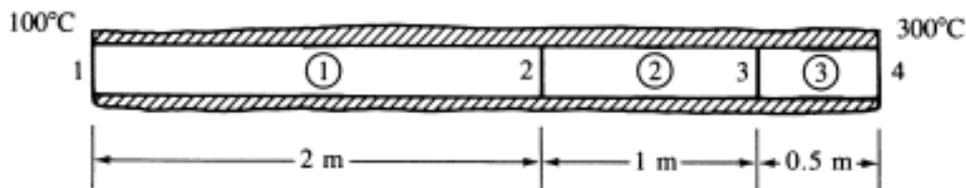

Figure.4
7. a) For the one-dimensional composite bar shown in Figure.4, determine the interface temperatures. For element 1,  $K_{xx} = 150 \text{ W/m}^0\text{C}$ , for element 2,  $K_{xx} = 100 \text{ W/m}^0\text{C}$ ; and for element 3,  $K_{xx} = 50 \text{ W/m}^0\text{C}$ . Let  $A = 0.1 \text{ m}^2$ . The left end has a constant temperature of  $100^0\text{C}$  and the right end has a constant temperature of  $300^0\text{C}$ . [10]